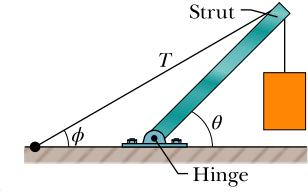

Figure 12.24 Problem 21.
**21 M** The system in Fig. 12.24 is in equilibrium. A concrete block of mass 225 kg hangs from the end of the uniform strut of mass 45.0 kg. A cable runs from the ground, over the top of the strut, and down to the block, holding the block in place. For angles  $\phi = 30.0^\circ$  and  $\theta = 45.0^\circ$ , find (a) the tension  $T$  in the cable and the (b) horizontal and (c) vertical components of the force on the strut from the hinge.